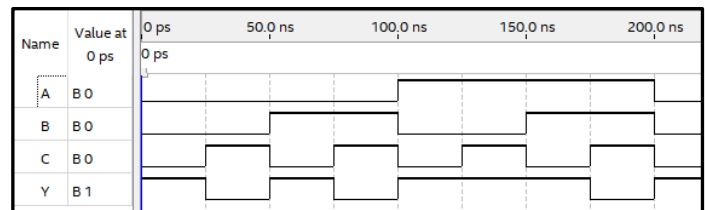

Figure 10: Output of Functional Simulation
- Zoom in on the window. You should see something similar to Figure 10. This file is not saved, so if you need a copy of it, use something like the “Snipping Tool” in Windows.